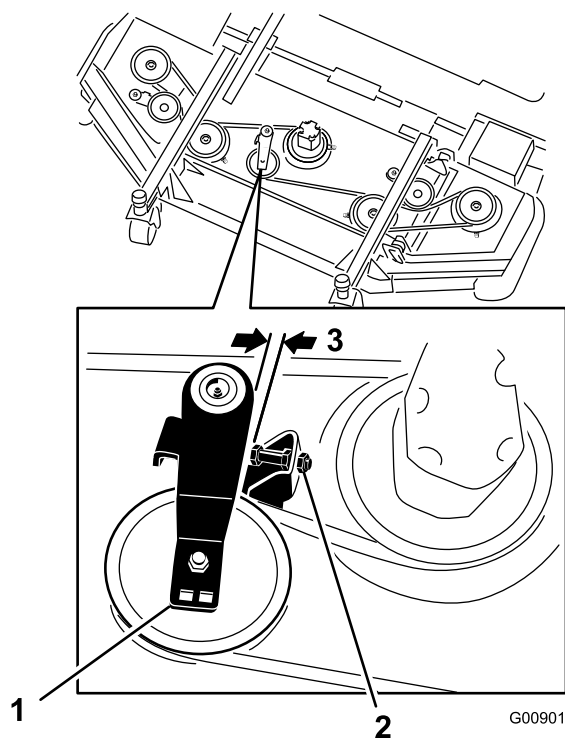

Figure 121
3. On the front deck, center position, loosen the jam nuts on the idler pulley stop screw and thread the stop screw into the bracket (Figure 121).
4. Using a ratchet wrench or similar tool, move each wing-deck idler pulley away from the drive belt to release the belt tension and allow the belt to slip off the wing-deck pulley (Figure 121).